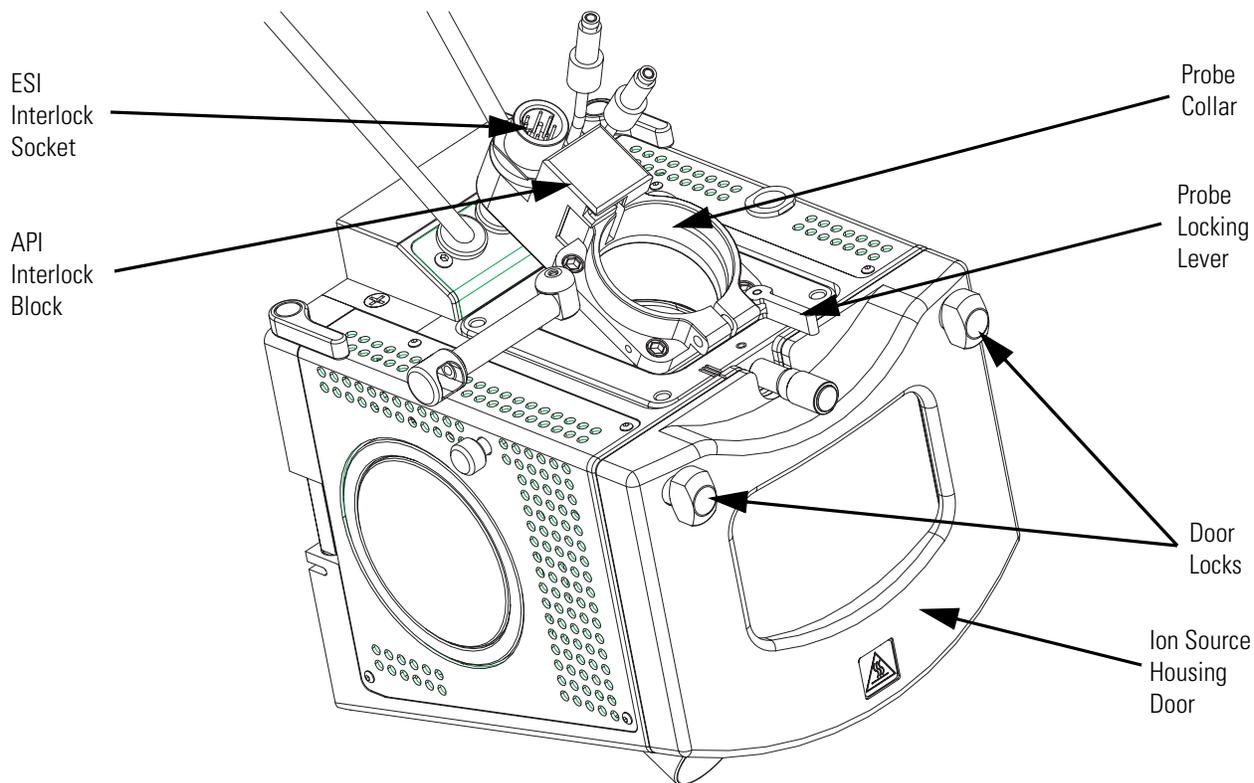

Figure 6. Ion Max ion source housing, detail of components
- a. Connect the vaporizer heater cable to the ESI interlock socket on the ion source housing. See Figure 6.